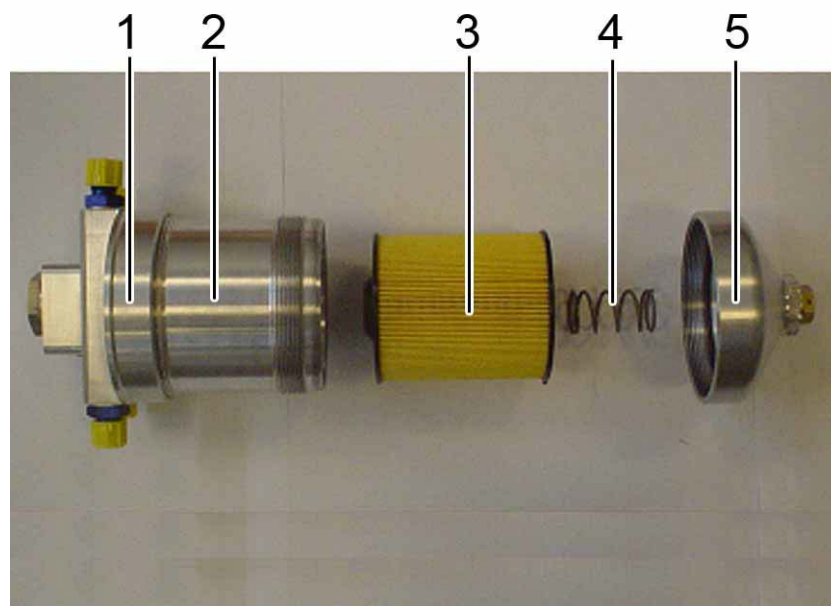

Fig. 28-7a Fuel Filter Bowl Disassembled
- (1) Unscrew the bottom lid (5) of the filter using a 27mm oil filter socket wrench (short socket). Remove the fuel filter cartridge (3) from the fuel filter housing. See Fig. 28-7a.